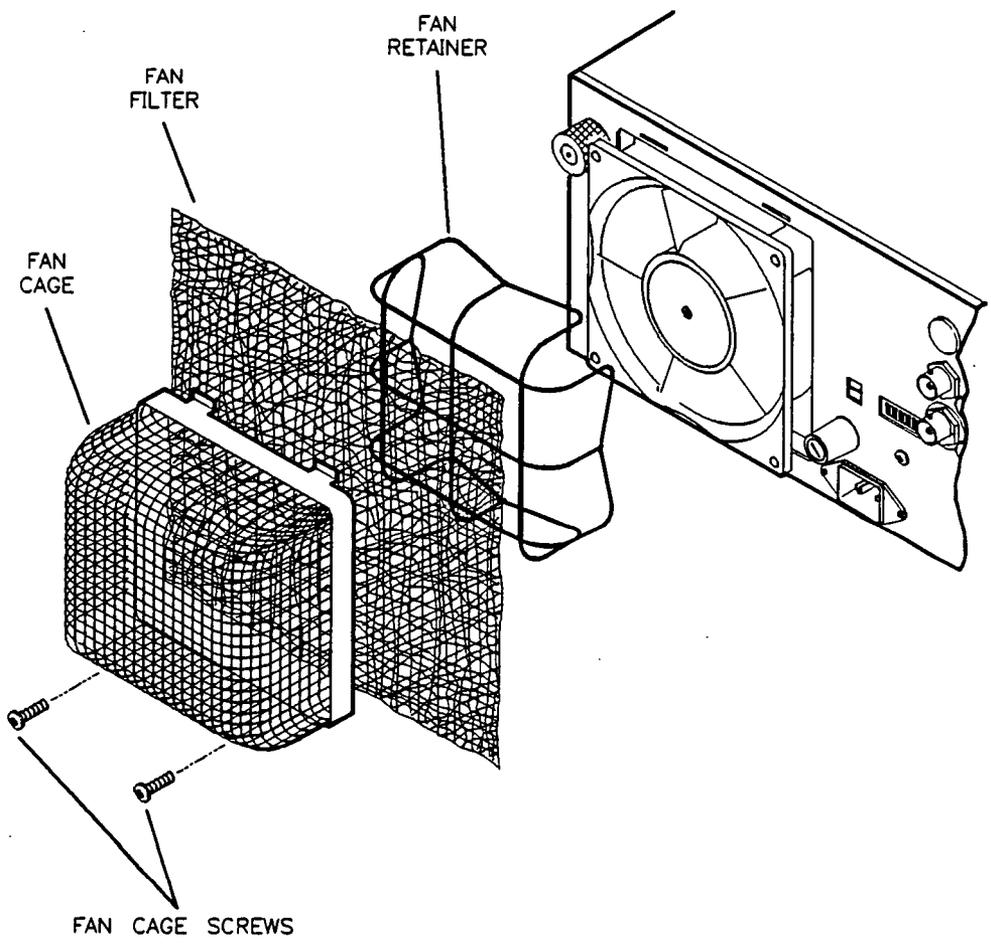

Figure 10-1. Removing the Fan Filter
3. Remove the screws holding the fan cage (see Figure 10-1).